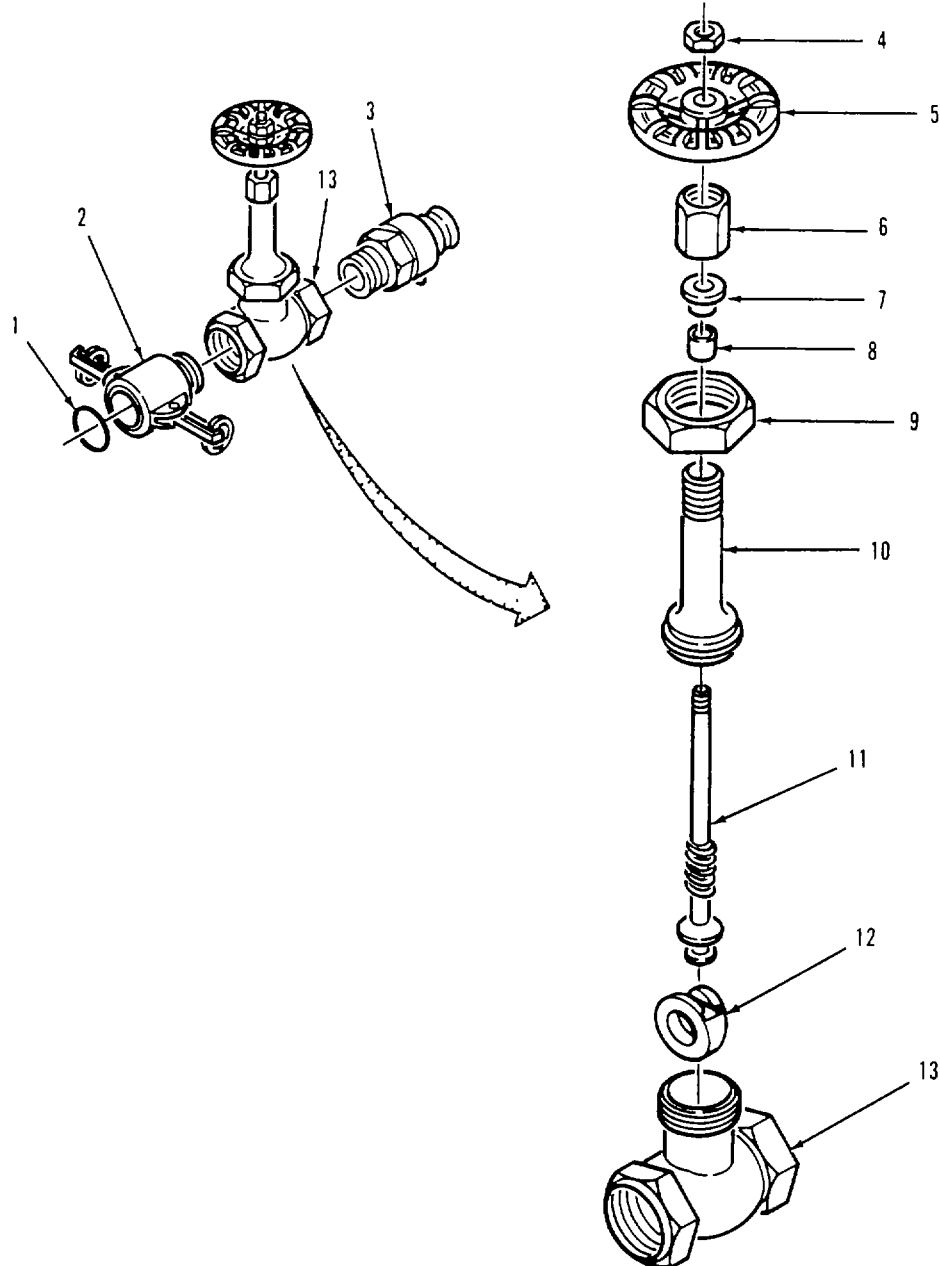

Figure 4-3. Gate Valve Assembly (2-inch) Assembly
- (1) Inspect valve body (13) for cracks and stripped or damaged threads.
- (2) Inspect disc (12) for cuts or scratches across sealing surfaces.
- (3) Inspect bonnet (10) for cracks and stripped threads.
- (4) Inspect stem (11) for stripped, galled or damaged threads.
- (5) Inspect female coupling (2) for cracks, broken lock arms and damaged threads.
- (6) Inspect male coupling (3) for cracks and damaged threads.
d. Repair. Replace all defective parts. Do not reuse packing (8) or gasket (1) If disc (12) or valve body (13) is damaged, replace entire valve.
e. Assembly. Refer to figure 4-3.
- (1) Screw stem (11) into bottom of bonnet (10).
- (2) Install new packing (8) and packing gland (7) over stem (11) and into bonnet (10)
- (3) Screw packing nut (6) onto bonnet (10) only finger tight.
- (4) Slide disc (12) onto end of stem (11).
- (5) Lower bonnet (10) and attached parts onto valve body (13) Make sure disc (12) fits in valve body seat.
- (6) Install bonnet ring (9) on valve body (13). Tighten packing nut (6).
- (7) Install handwheel (5) and handwheel nut (4) on stem (11).